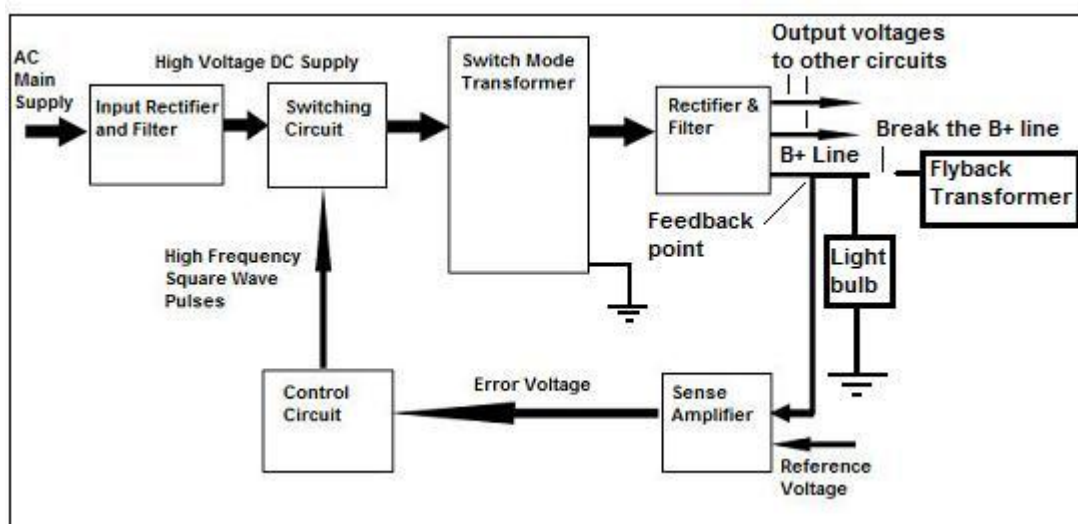

Figure 14.10- The Right Way To Place The Light Bulb
3) Next, connect a 100 watt bulb between the B+ line and cold ground as shown in figure 14.10 below.